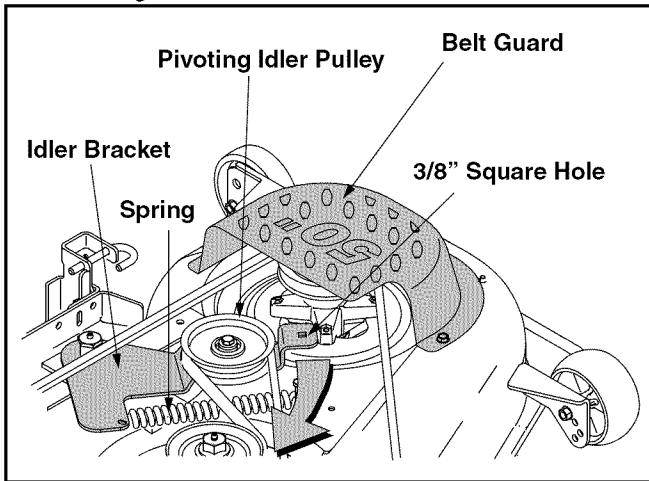

Figure 21
- To ease in removing the belt in later steps, loosen, but do not remove, the bolt which secures the pivoting idler pulley to the idler bracket. See Figure 21.
- Insert a 3/8"-drive ratchet wrench (set to *tighten*) into the square hole found in the idler bracket on the left side of the deck's surface. See Figure 21.